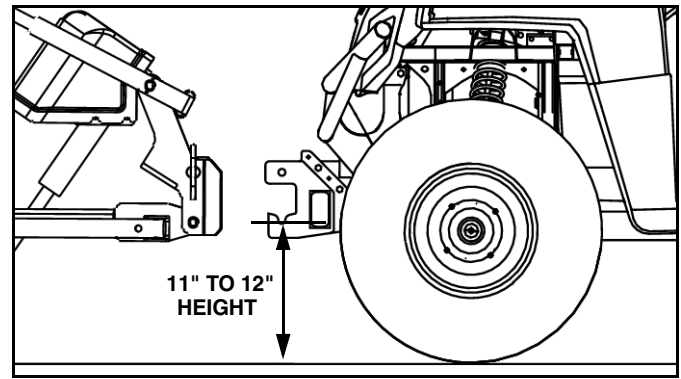

Figure 10
13. Align the UTV Mount (#1) with the holes in the Mount Weldment (#2). Adjust the UTV Mount (#1) so that the center of the bottom slot is 11-12" off the ground. (See Figure 10.)